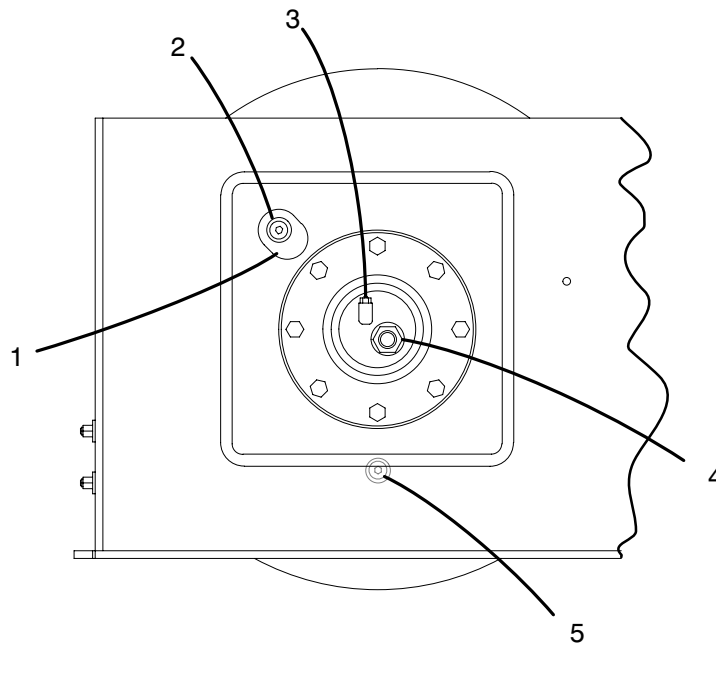

Figure 2–16
The hydraulic reservoir is used to store and supply hydraulic oil needed to operate all hydraulic functions of the crane. The hydraulic reservoir, as shown in Figure 2–13, is equipped with a sight gauge for checking the oil level.
1. Relieve any trapped hydraulic system pressure by loosening the breather/filler cap, on the hydraulic reservoir, 1/4 turn until pressure is fully relieved. Refer to Figure 2–13.
2. With the hydraulic oil cold (approximately 62°F 17°C), check its level through the sight gauge on the front of the hydraulic reservoir. Refer to Figure 2–13. The proper level must be maintained at all times. Add hydraulic oil as necessary to bring the oil level between the “HIGH” and “LOW” marks. Refer to “Adding Oil To The Hydraulic Reservoir” in this Section of this Operator’s Manual. Use only Hi Performance Hydraulic Oil or an approved substitute. Do Not Overfill.
3. Relieve any trapped hydraulic system pressure by loosening the breather/filler cap, on the hydraulic reservoir, 1/4 turn until pressure is fully relieved. Refer to Figure 2–13.
3. Clean the speed reducer around the check/fill plug to prevent contamination from entering the system. Remove the check/fill plug. Refer to Figure 2–15.
4. Thoroughly clean the exterior surface of the swing speed reducer around the check/fill and drain plugs to prevent contamination from entering the unit. Refer to Figure 2–15.
2. Observe the oil level within the sight gauge. Oil should be visible within the sight gauge. Refer to Figure 2–16. Add oil as required to bring the oil to the proper level. Refer to the Lubrication Chart for the correct grade of oil.
3. Rotate winch drum until the fill/drain plug is aligned with the fill alignment hole in the side support. Refer to Figure 2–16.